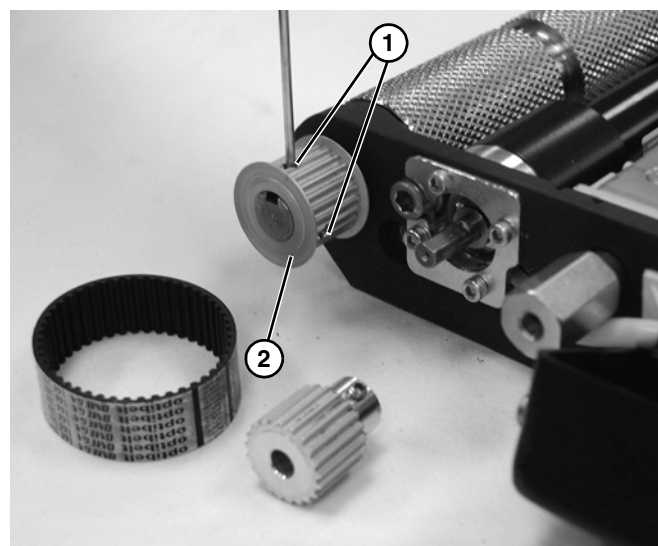

Figure 53
7. Loosen two set screws (**Figure 53, item 1**) on driven pulley (**Figure 53, item 2**), and slide off of shaft to remove.
8. Remove driven pulley (**Figure 53, item 2**).